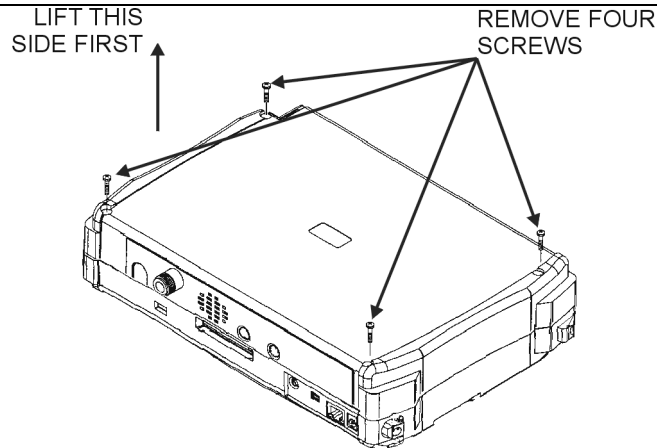

Figure 11. Removing the Cover Screws
3. Use a Phillips screwdriver to remove the four screws securing the two halves of the ISDBT Field Tester case together (Figure 11).